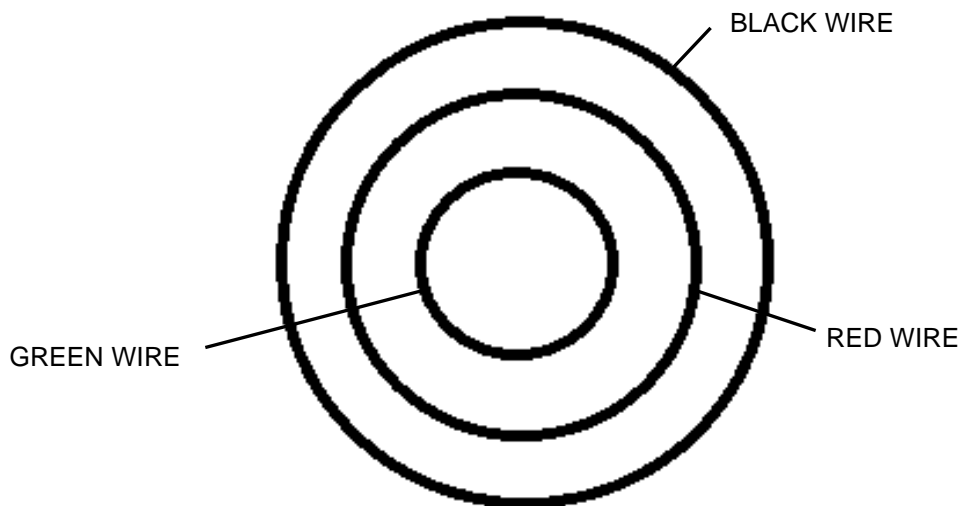

Figure 53: Airmaster propeller signal wire to slip-ring disc connection.
- Ensure that the electrical signal wire connections are secure and correct (i.e. a specific coloured wire on the propeller / propeller extension side connects to the correct slip-ring / terminal on the slip-ring disc (as marked upon removal or refer to Figure 53).